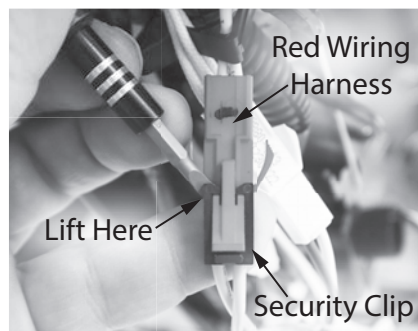

Figure 233 - Red wiring harness clip removal
- 18 Trace the yellow wires from the condensate trap to the red wiring harness and disconnect them. See Figure 233.
NOTICE: The harness uses a black security clip. Use a small flat blade screw driver to remove and keep this clip for reinstallation. See Figure 233.